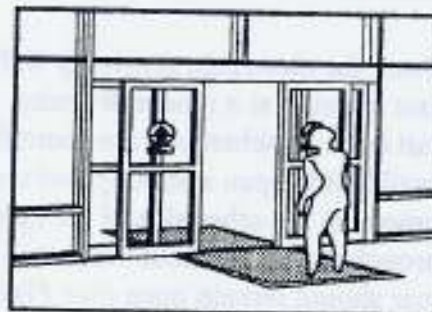

Figure 4
- A. Step on the "opening" mat in several places. The door should open smoothly and stop without impact (*See Figure 4*).